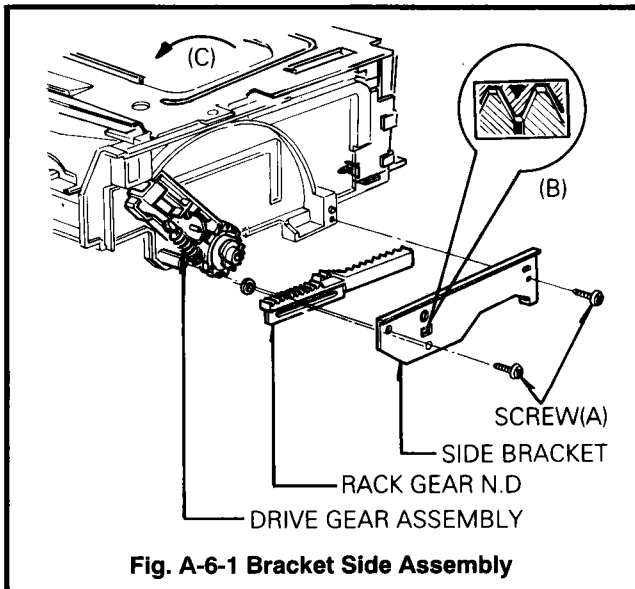

Fig. A-6-1 Bracket Side Assembly
6. Bracket Side Assembly(Fig. A-6-1)